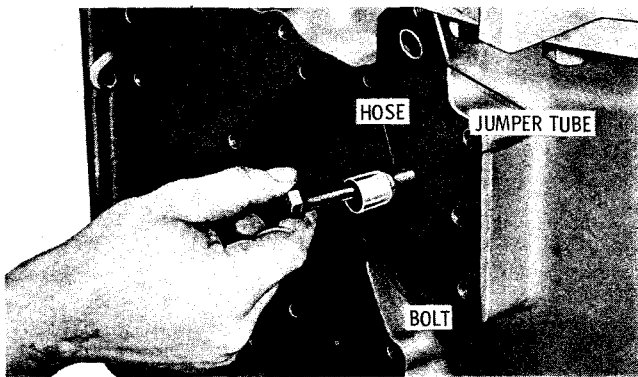

Fig. 5-60. Removing jumper tubes
(10) Remove both upper oil jumper tubes (fig. 5-60) by installing a bolt into the tube and catching the threads on the end of the tube. Be sure that the hoses are removed with the tubes.